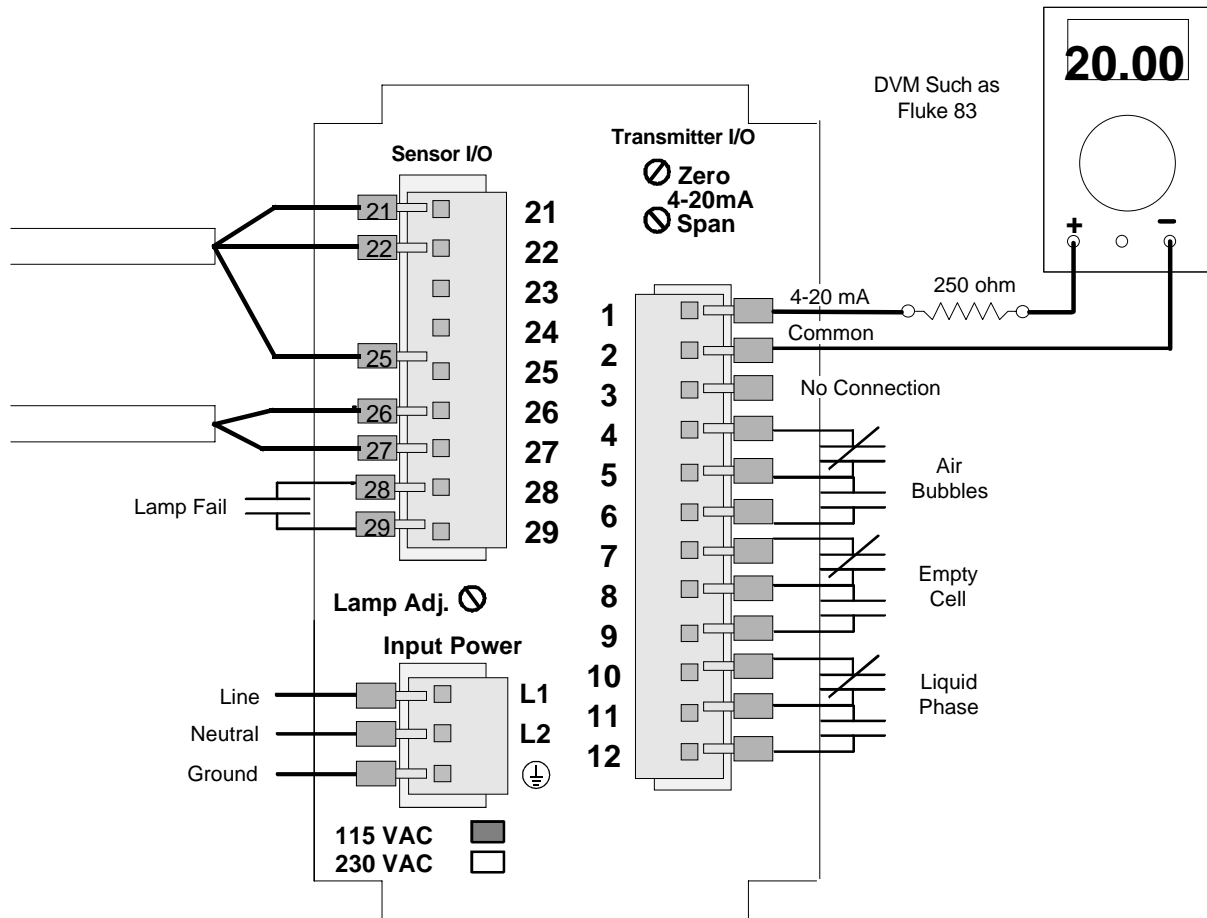

Figure 13 - Start-Up/Calibration Test Set-up
5. Connect an accurate multi-meter to the 4 to 20mA analog output (Terminals 1 and 2), in series with a 250 ohm load. The 250 ohm load is only necessary if the instrument is not connected to any other device (see figure 13).